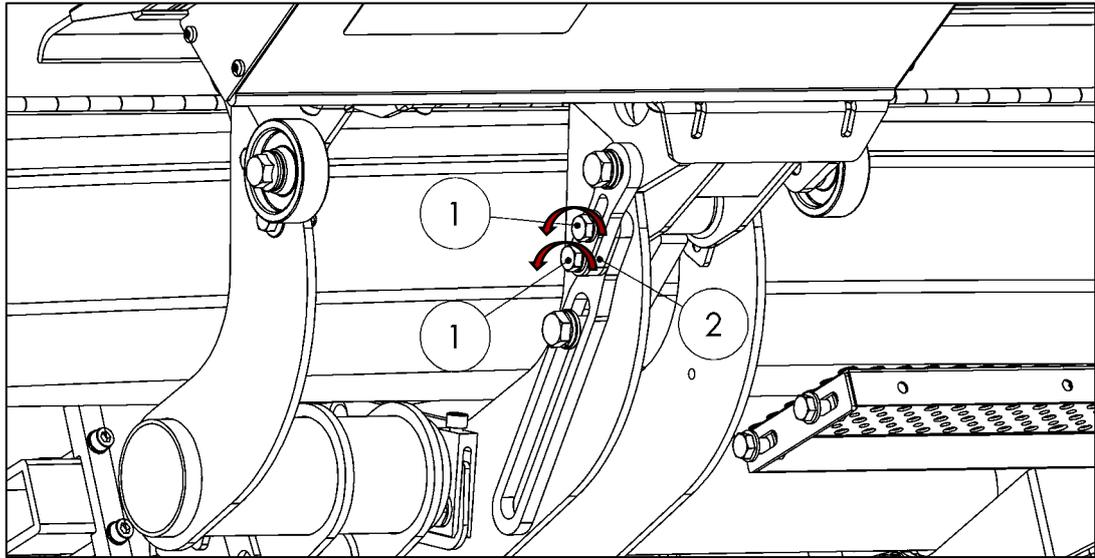

Figure 78
- Loosen the 2 screws (1) on the clamping plate (2) (see Fig. 78).